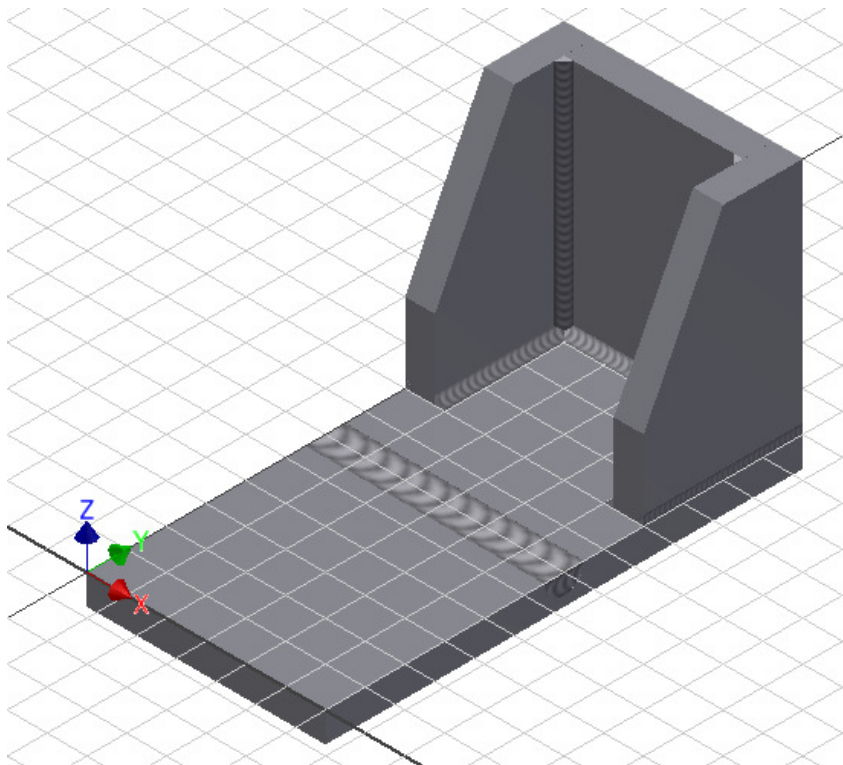

Figure Step 3
Step 3 Start a new sketch on the top of the bottom plate. Enter the PROJECT GEOMETRY command and project the end and both edges of the bottom plate onto the sketch. (Figure Step 3)